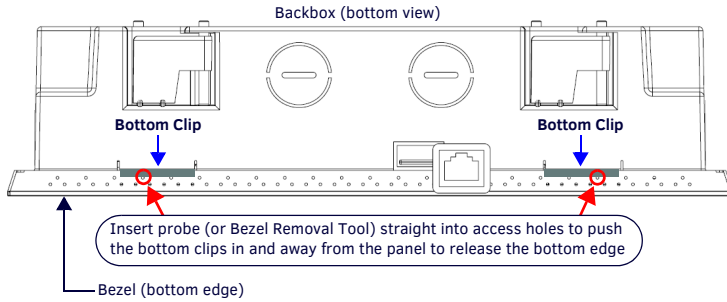

FIG. 6 RMBK-1001/BACKBOX ASSEMBLY
- With a thin probe, carefully press straight into the access holes on the bottom of the bezel (near the center of the bottom tabs) to disconnect the two bottom clips (FIG. 6).